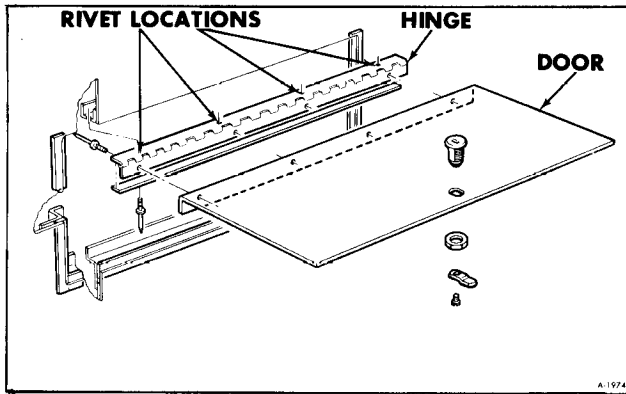

Figure 24-External Utilities Compartment Door
1. Drill out four pop-rivets holding piano hinge to body (See figure 24).